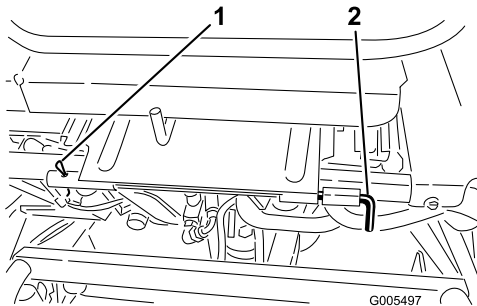

Figure 29
3. Lower the seat and remove the roll pin securing the seat-pivot rod to the frame (Figure 29).